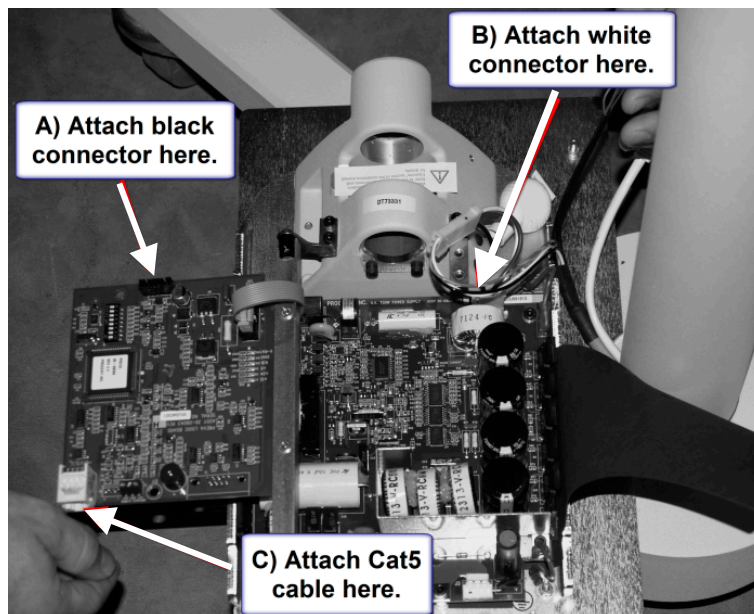

Figure 37: Connecting the Vertical Column Cables to the Control Unit
1. Attach the black connector from the Vertical Column to point J4 of the Power Supply Control Board 30-08043, as shown in Figure 37.
2. Attach the white connector from the Vertical Column to point J1 on the Power Supply Board 30-08041, as shown in Figure 37.
3. Attach the CAT5 connector from the Vertical Column to point J1 on the Power Supply Control Board 30-08043, as shown in Figure 37.